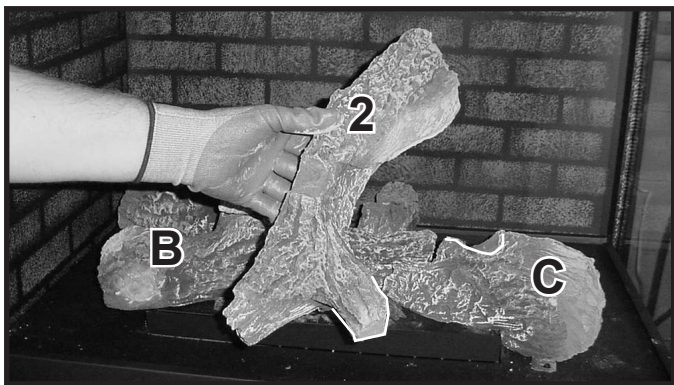
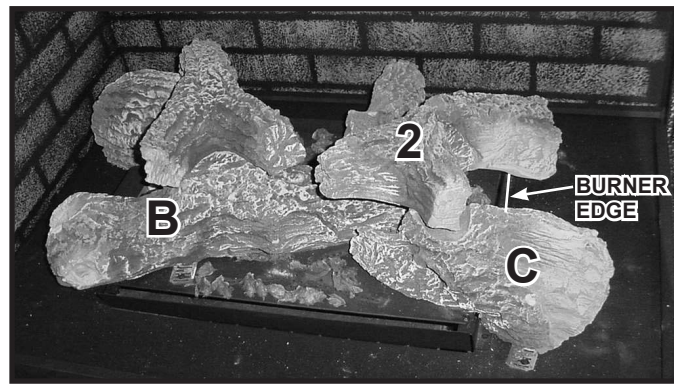

Figure 11. Placement of Log #2
Figure 12. Placement of Log #2
STEP 2. Log #2 (SRV2129-705): Locate portion of Log #2 that is highlighted in Figure 11. Place that portion of Log #2 on the indentation on Log C. Log #2 will rest on the tip of Log B. Slide the bottom of Log #2 up to the edge of the burner as shown in Figure 12.